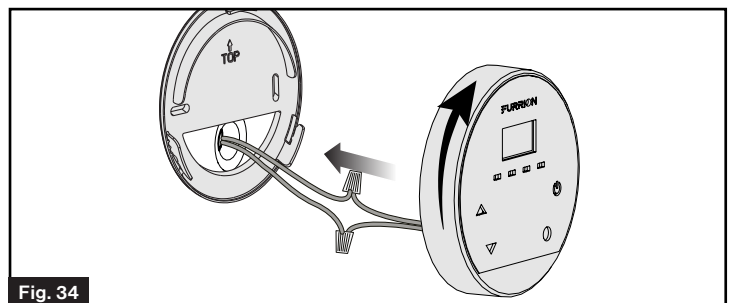

Fig. 34
3. Tuck wires into the wall opening. Install the wall controller cover and push to secure into place clockwise. (Fig. 34)